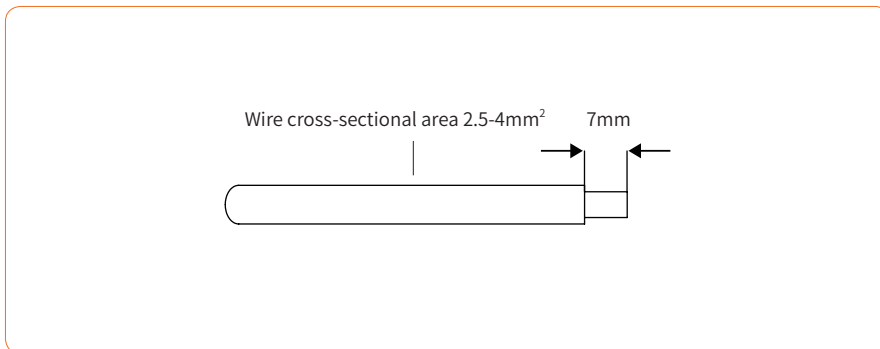

Figure 4-17
② Peel off the DC cable insulation sleeve for 7 mm, as shown in Figure 4-17: